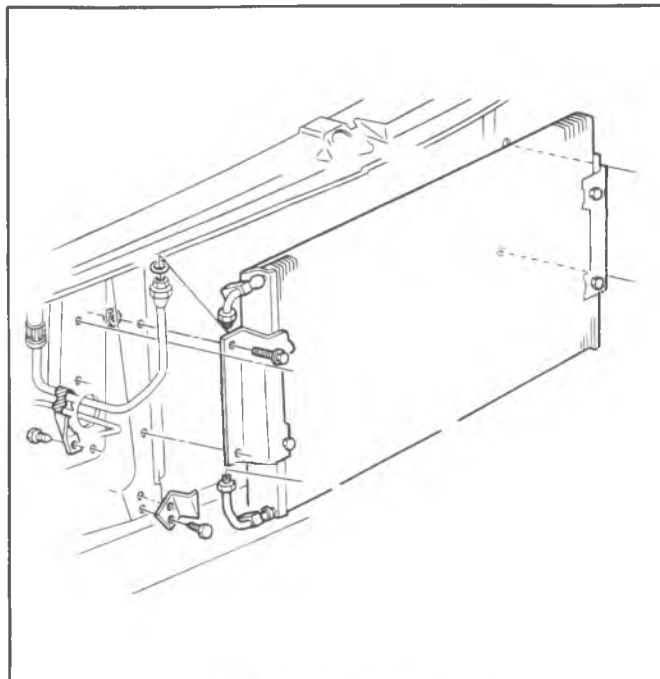

Fig. 1B-42--Condenser-G Series
Refer to figures 1B-61 thru 1B-66 for condenser inlet and outlet connections, compressor refrigerant line connections, and general refrigerant line routing and connections.
**HEATER AIR DISTRIBUTOR AND EXTENSION DUCT - G SERIES****Replacement (Fig. 1B-43)**